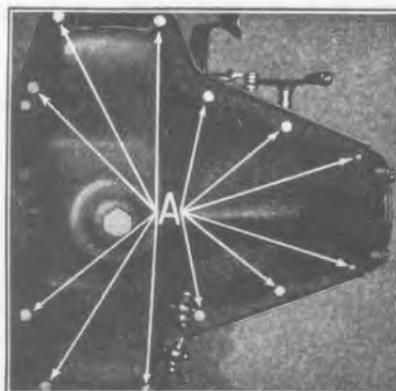

Fig. 298
- 510 Run out the 12 bolts and cap screws that hold transmission cover to crankcase (See Fig. 298).
519 To prevent dropping any parts into the engine, it is a good plan to position the door on the transmission cover and run down one of the screws to temporarily hold it in place. Run down the 12 bolts, cap screws, lockwashers and nuts which hold transmission cover to crankcase. (See Fig. 298).